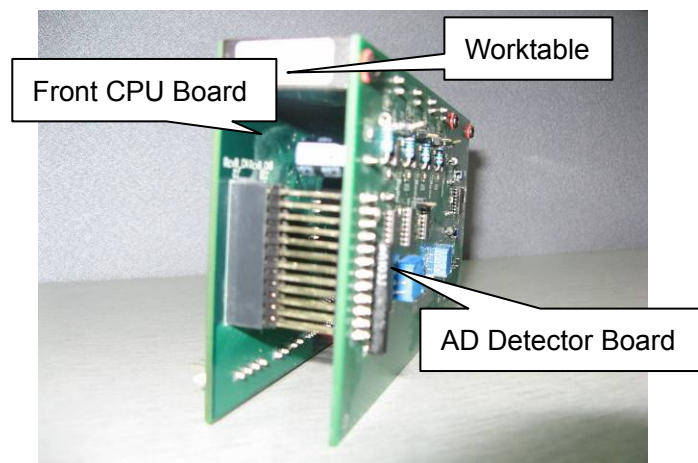

Figure 4-21
3. Remove all wires on the front CPU board, and then remove the whole worktable as shown in Figure 4-21.